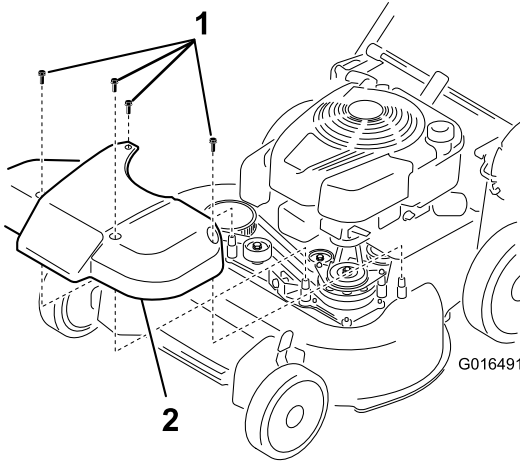

Figure 29
1. Remove the blade-drive system cover (Figure 29).